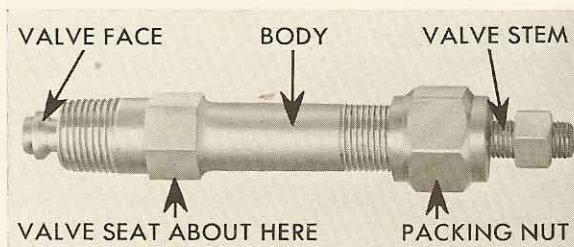

FIGURE 16-11
17. REMOVAL AND SERVICING OF PRIMING PUMP: The priming pump, Figure 16-11, attaches to one of the pump blocks. The head of the priming pump plunger has an inverted valve face which seats in the barrel of the pump. In Figure 16-11, the plunger is withdrawn sufficiently to show the valve face and the seat is in the barrel about the center of the hex portion next to the threads. The other end of the barrel has a packing nut. When this gland is repacked, the nut should never be tightened up so as to retard the movement of the plunger.